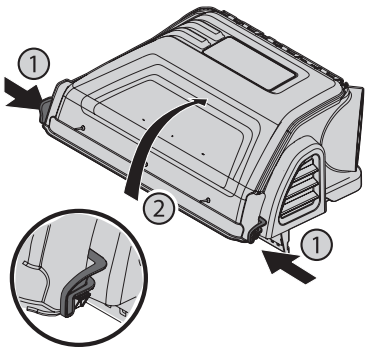

Figure 29
1. Open hood by pushing in on the rear side tabs with your hand (1), and lifting the cover with your other hand in the center rear of the bagger cover (2) as shown in Figure 29.